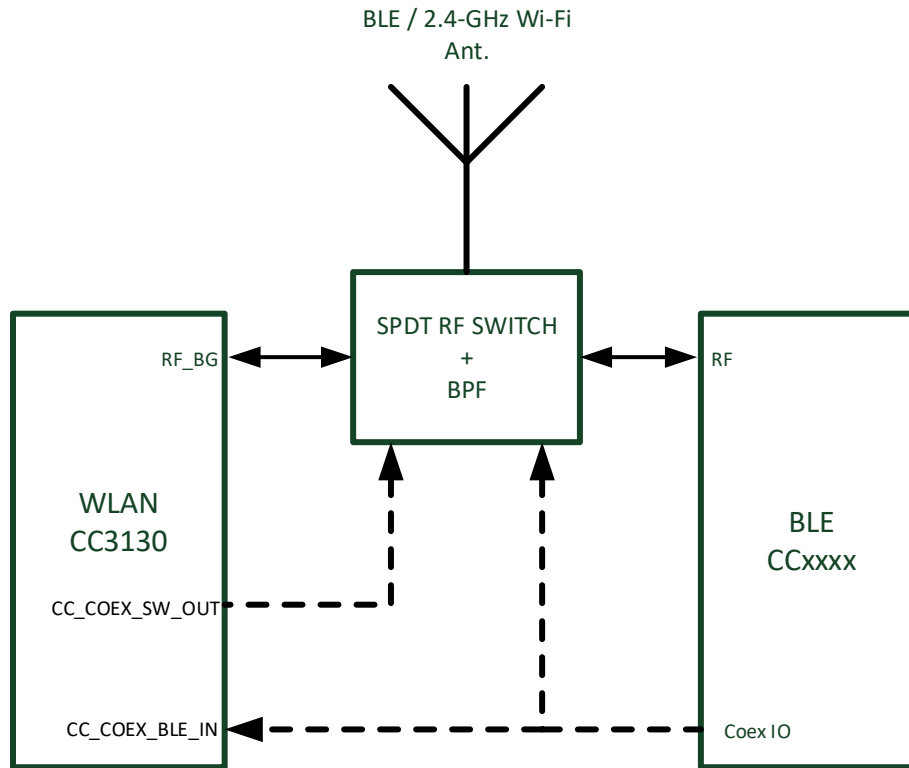

图 9-1. Single-Antenna Coexistence Mode Block Diagram
- In this mode, (see 图 9-1) the two entities share the antenna through an RF switch using two GPIOs (one input and one output from the WLAN perspective).
图 9-1 shows the single antenna implementation of a complete Bluetooth® low energy and WLAN coexistence network. The Coex switch is controlled by a GPIO signal from the BLE device and a GPIO signal from the CC3130 device.